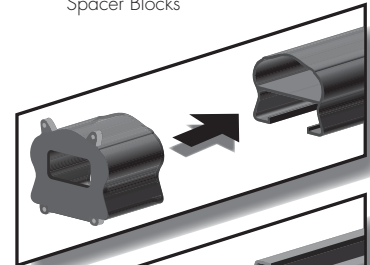

Figure 2
- 3.) Slide top and bottom rail brackets on ends of pre-built rail sections *Figures 2 & 3*.